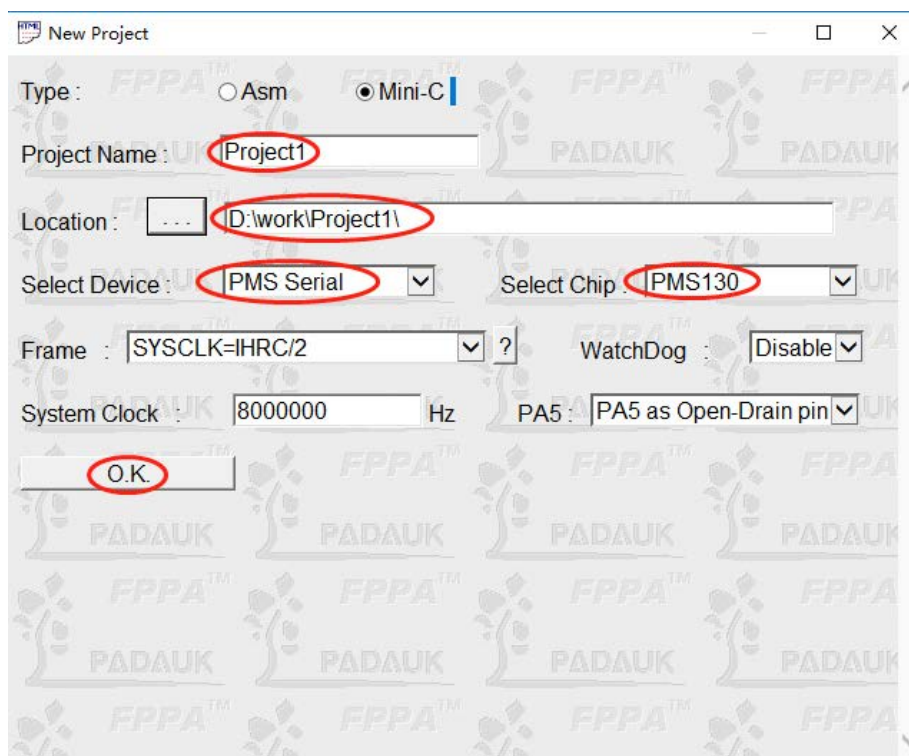

Fig. 3-16 Mini-C parameter selection window
3. Then the dialog box shown in figure 3-16 will appear. Type in the project name (default is Project1), select the project location, select IC and parameters (you can use default values) and then click **OK**.